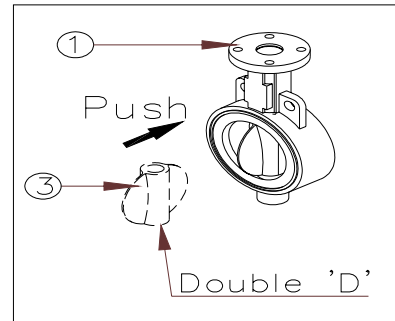

Fig 8.5
- 11.3.6 Position disc (2) as shown in fig.8.5 and push it into valve body (1). Special care must be taken not to damage the seat surface.